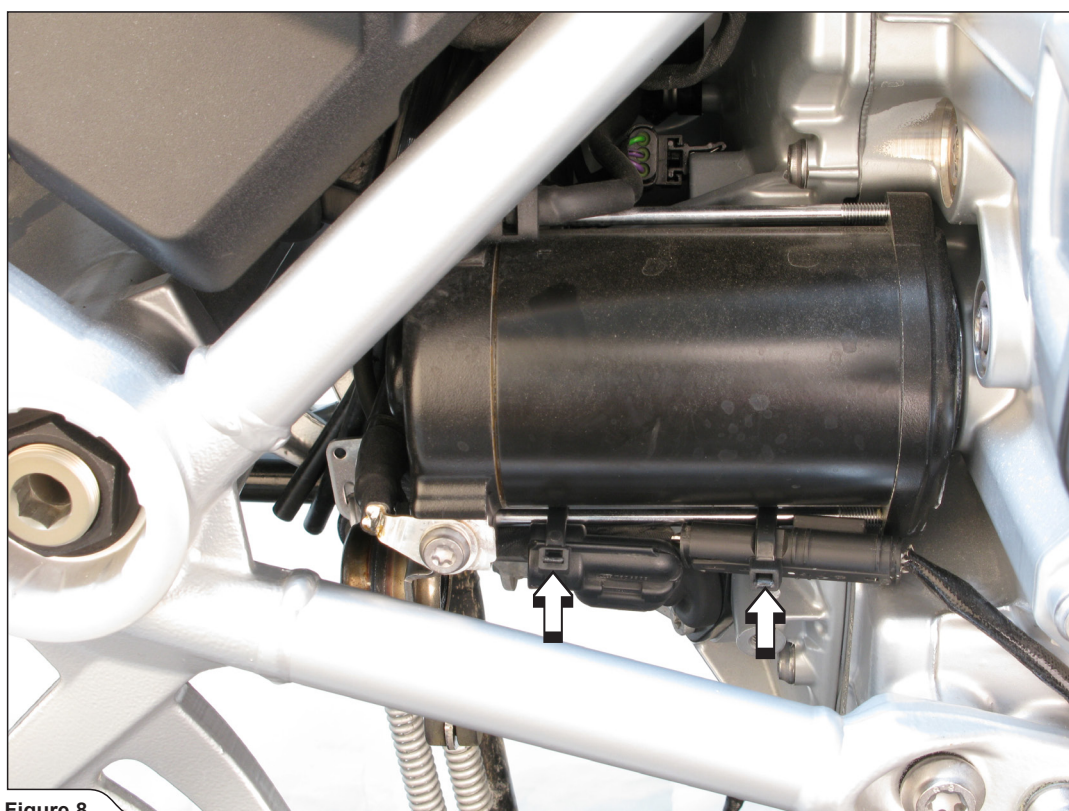

Figure 8
8. Attach and secure lambda and servo connectors as shown, using tie wraps from Akrapovič installation kit (**Figure 8**).